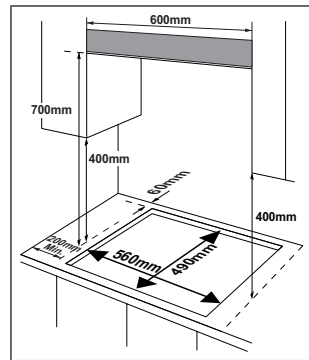

Fig. 3
- The appliance is installed into standard kitchen furniture designed for built-in appliances or in appropriately modified furniture with dimensions according to Fig. 3.